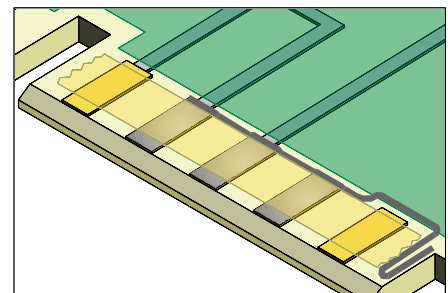

Figure 6: Apply High Temperature Tape then apply conductive paint to the contacts that need plating.
2. Apply a thin coating of conductive paint directly to the inboard tip of each contact to be plated. The conductive paint should extend out to one edge so that a clip can be applied to make electrical connection. (See Figure 6).